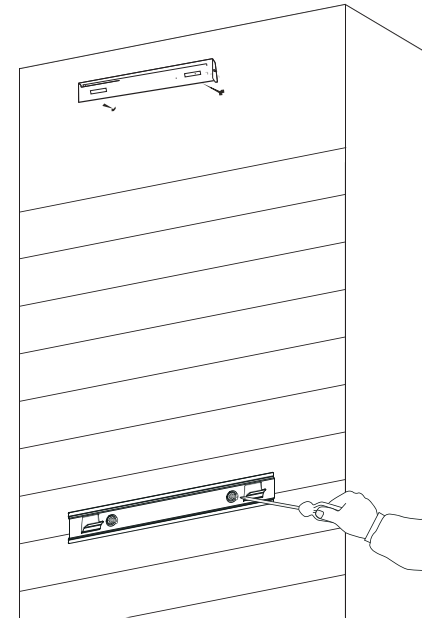

Fig7
- Install the flue cover mounting and wall brackets with screws to the wall as marked (Fig. 7). Please mounted recirculating T pieces together with flue cover bracket if recirculating mode is used. (Fig.9)